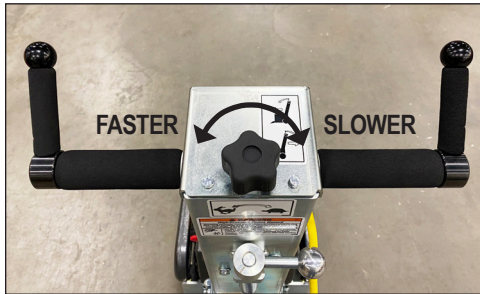

FIG. 4
Speed Control (Figure 4)
3. Turn speed control knob to slowest position (Figure 4).